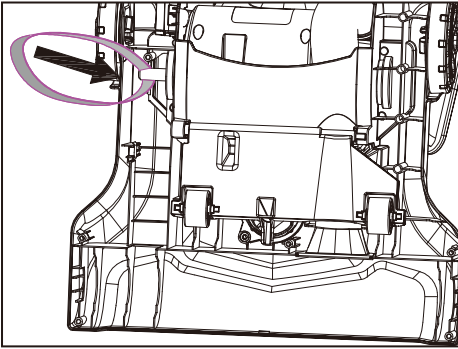
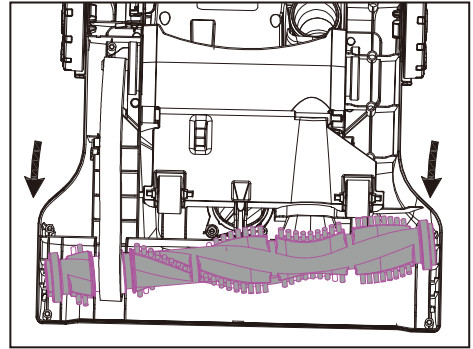

Fig 3
Fig 4
5. Press handle release latch and pull out handle with wand (Fig.3).
6. To attach accessories, push desired tool onto end of wand (Fig.4).
5. Use a rod or similar blunt implement to clear a blockage in wand or hose. Flex hose to loosen debris. (Fig. 3). Use caution if there is any sharp objects that could have become imbedded in hose.
7. Use finger to check for debris in air path (Fig. 4).
- To replace belt ,position new belt around motor shaft (Fig. 3), loop new belt around brush roll bar shaft at left end of brush roll bar, then insert left end of brush roll bar first, align brush roll bar end cap with slot to make it fits into position, press right end of brush roll bar into position (Fig.4)